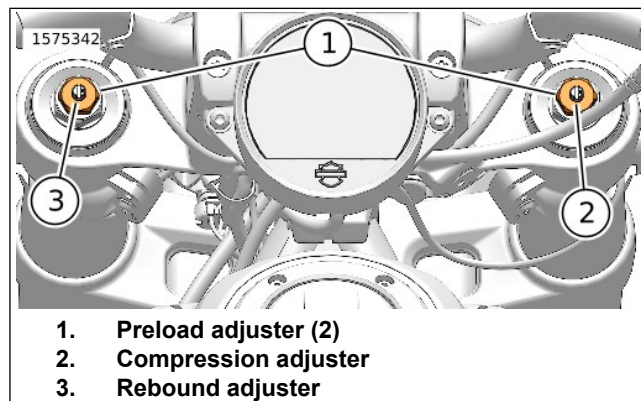

Figure 15. Front Suspension Adjusters
See Figure 15. The compression adjuster (2) screw is located on the top of the right side fork tube.
See Figure 15. The rebound adjuster (3) screw is located on the top of the left side fork tube.
See Figure 15. The preload adjuster (1) is located on the top of each fork tube.